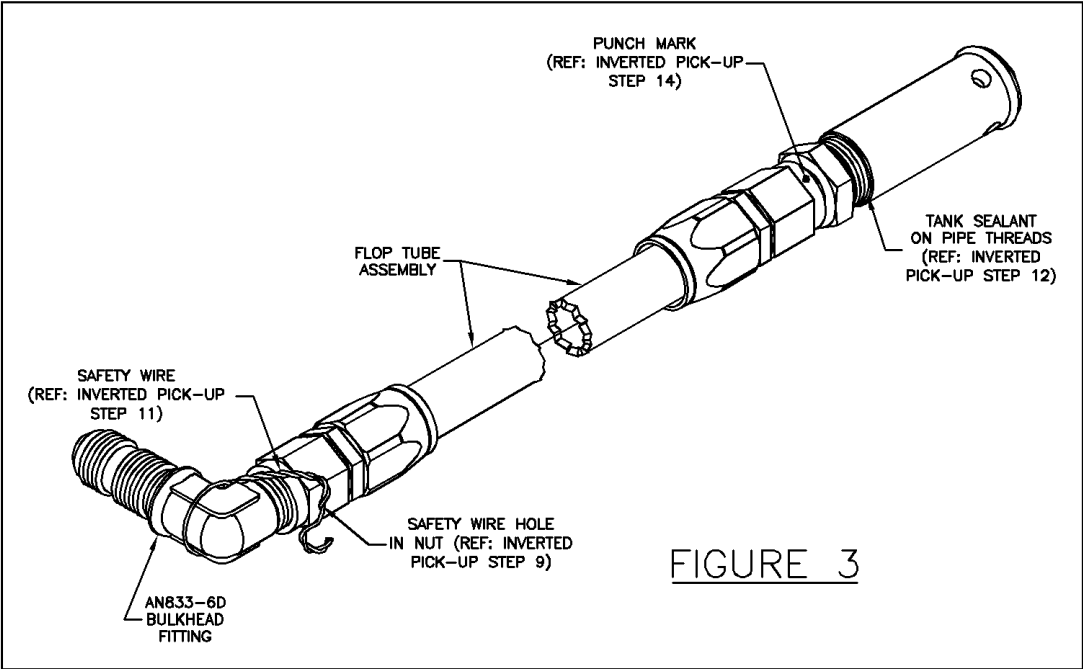

FIGURE 3
9. Drill the nut on the flop tube hose end as shown in Figure 3.
11. Safety wire the nut to the bulkhead fitting as shown in Figure 3.
14. Using a small punch and hammer, make a punch mark on the 'weight end' nut of the floptube. Punch the flange of the nut as shown in Figure 3. The punch mark should be deep enough to effectively lock the nut in position.